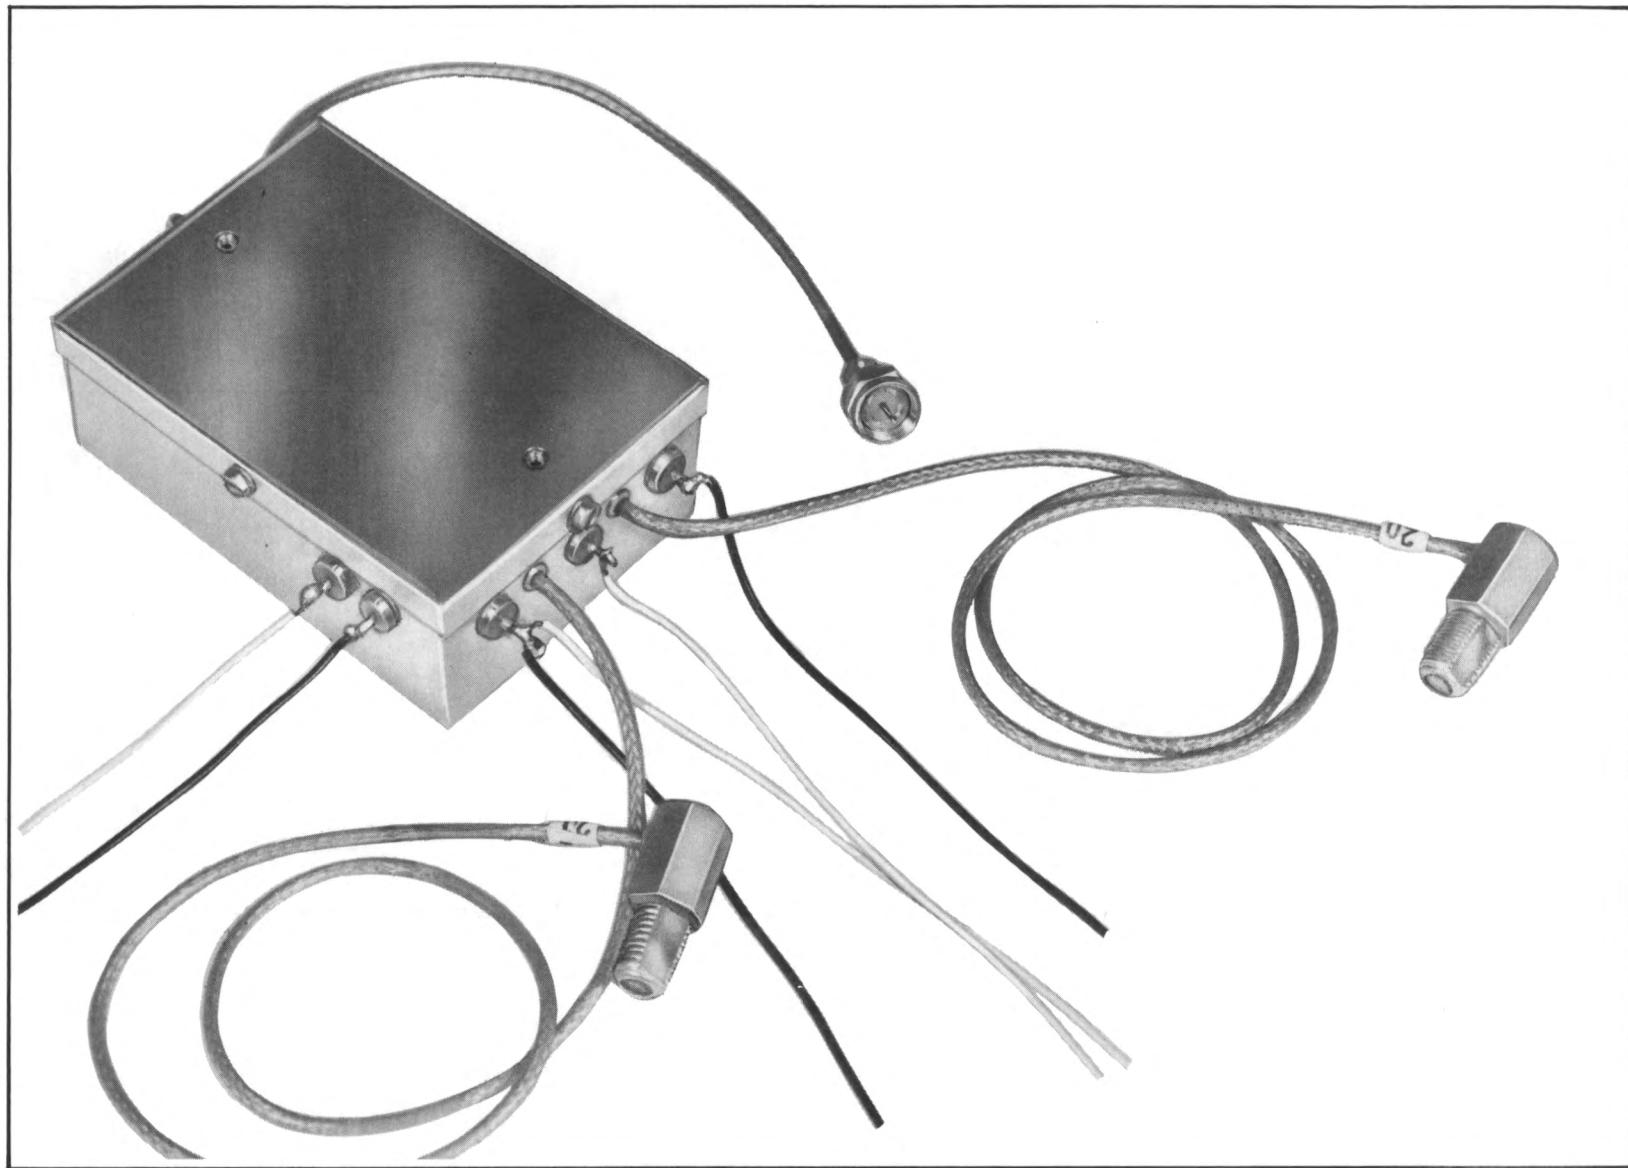

Fig. 8 CIS MODULE
1.2.1 Model CIS comes factory-equipped with six hook-up wires and three coaxial cables with appropriate connectors as shown in Fig. 8 (module upside-down showing the two built-in mounting nuts).